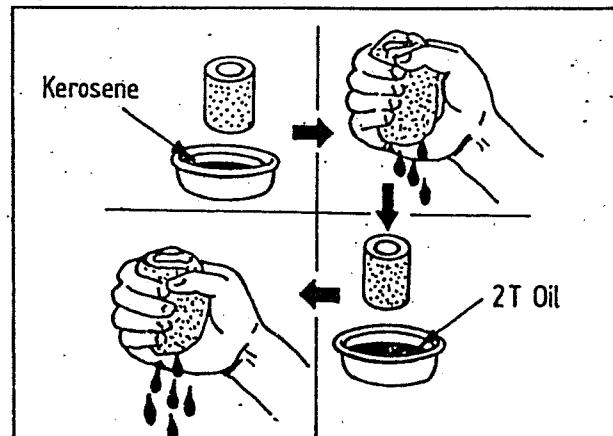

Fig 2.3
- Fill a washing pan of a proper size with non-flammable cleaning solvent (kerosene). Immerse the element in the solvent and wash it clean (fig 2.3)
- Squeeze the solvent off the washed element by pressing it between the palms of hand (fig 2.3). Do not twist and wring the element as it will develop fissures.
- Immerse the element in a pool of 2T oil, and squeeze the oil off the element to make it slightly wet with oil (fig 2.3)